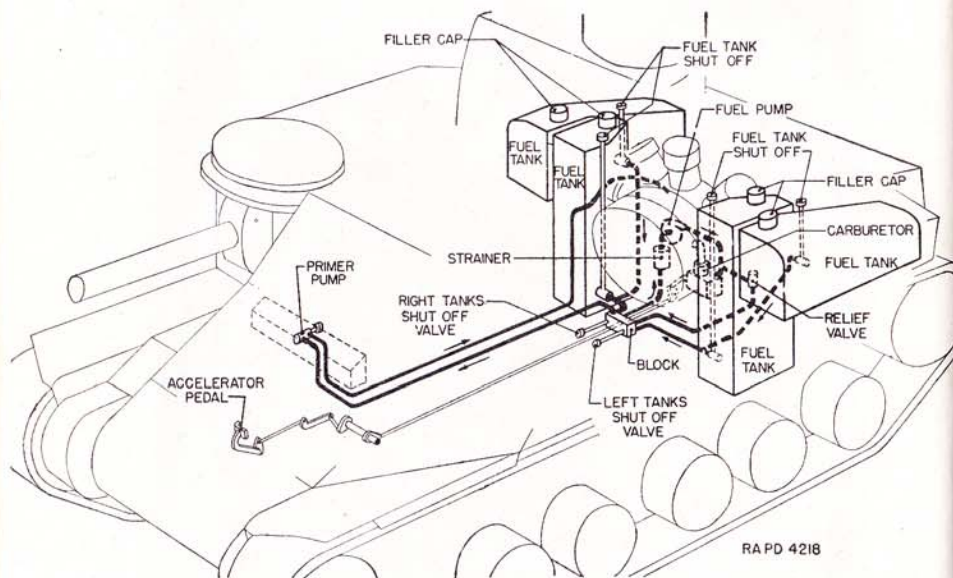

FIGURE 35.—Fuel system.
- (2) *Horizontal tanks.*—(a) Drain tanks.
**62. Shut-off valves.**—*a.* Two valves (fig. 35) located on the rear wall of the fighting compartment under the engine oil tank and to the right of the power shaft tunnel control the flow from the right and
left fuel tanks. In addition, each tank is provided with a separate shut-off valve (fig. 35). The handles for the vertical tanks extend through the grill, near the turret, in the roof of the hull, while the handles for the horizontal tanks are placed in the countersunk holes in the roof of the hull, back of the filler caps.
**66. Gasoline system operation** (fig. 35).—Gasoline from any tank or combination of tanks flows to a central header. From the header it is drawn through a strainer by a pump to the carburetor. Excess gasoline is bypassed through a relief valve and returned to